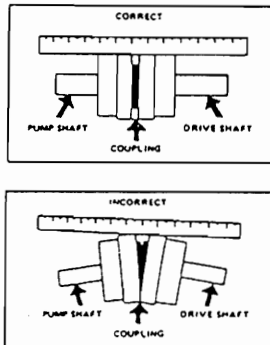

FIGURE 5
7. To assure parallel alignment (Figure 5) place a straight edge along the side of both coupling halves in two different locations, 90° apart. The coupling is aligned when the straight edge rests squarely on